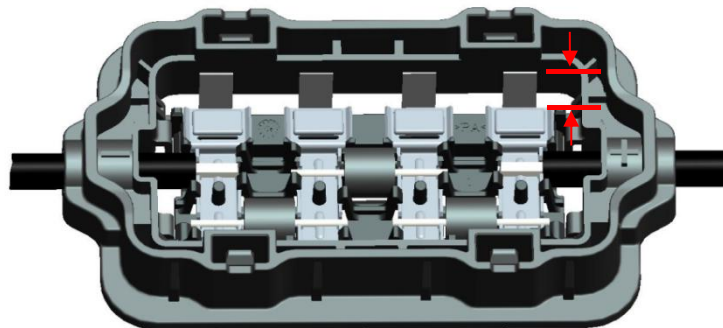

Figure 4
3.3.1.1 Option 1: Make sure the polarities of foil tabs from solar module keep conformity with junction box, reference length of the foil tab is 10mm from the conductive contact as shown, see Figure 4.